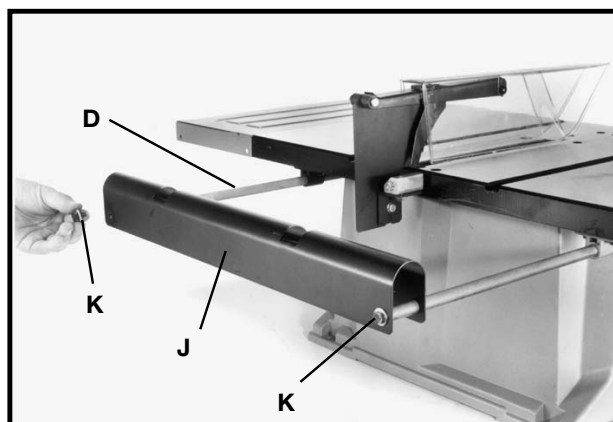

Fig. 32
4. Secure outfeed support (J) Fig. 32, to rods (D) using two 1/4-20x1/2 in. hex head screws and 1/4 in. flat washers (K) as shown.